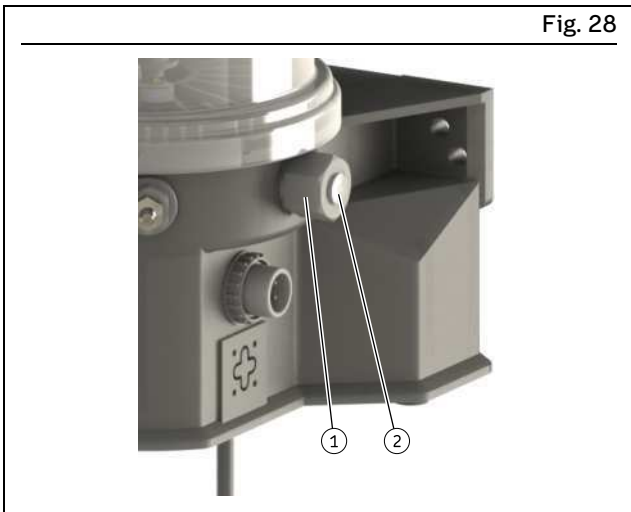

Fig. 28
1. Remove the plug screw (Fig. 28/2) from the pump element (Fig. 28/1)